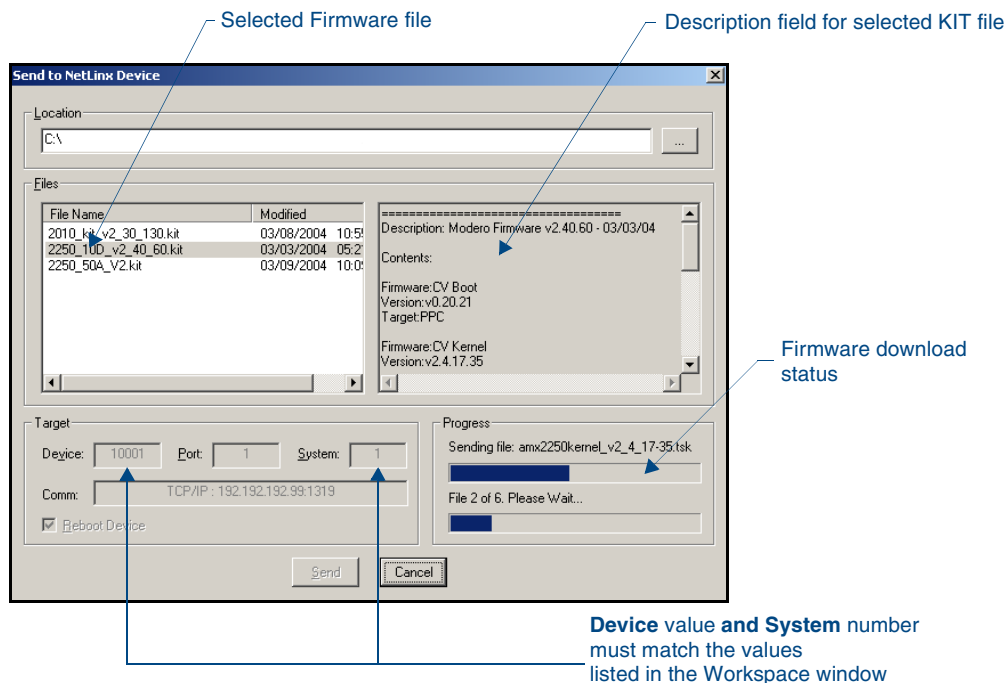

FIG. 17 Send to NetLinx Device dialog
5. Select **Tools** > **Firmware Transfers** > **Send to NetLinx Device** from the Main menu to open the Send to NetLinx Device dialog (FIG. 17). Verify the device's System and Device number values match those values listed within the System folder in the **OnLine Tree** tab of the Workspace window.
6. Select the device's firmware file from the **Files** section (FIG. 17).
9. Click **Send** to begin the transfer. The file transfer progress is indicated on the bottom-right of the dialog (FIG. 17). Do not pull power from device during transfer, it can take approximately 5 minutes to finalize firmware transfer. The upgrade can still be in progress when the bargraph reaches the end, it is a good idea to wait until the process is complete.